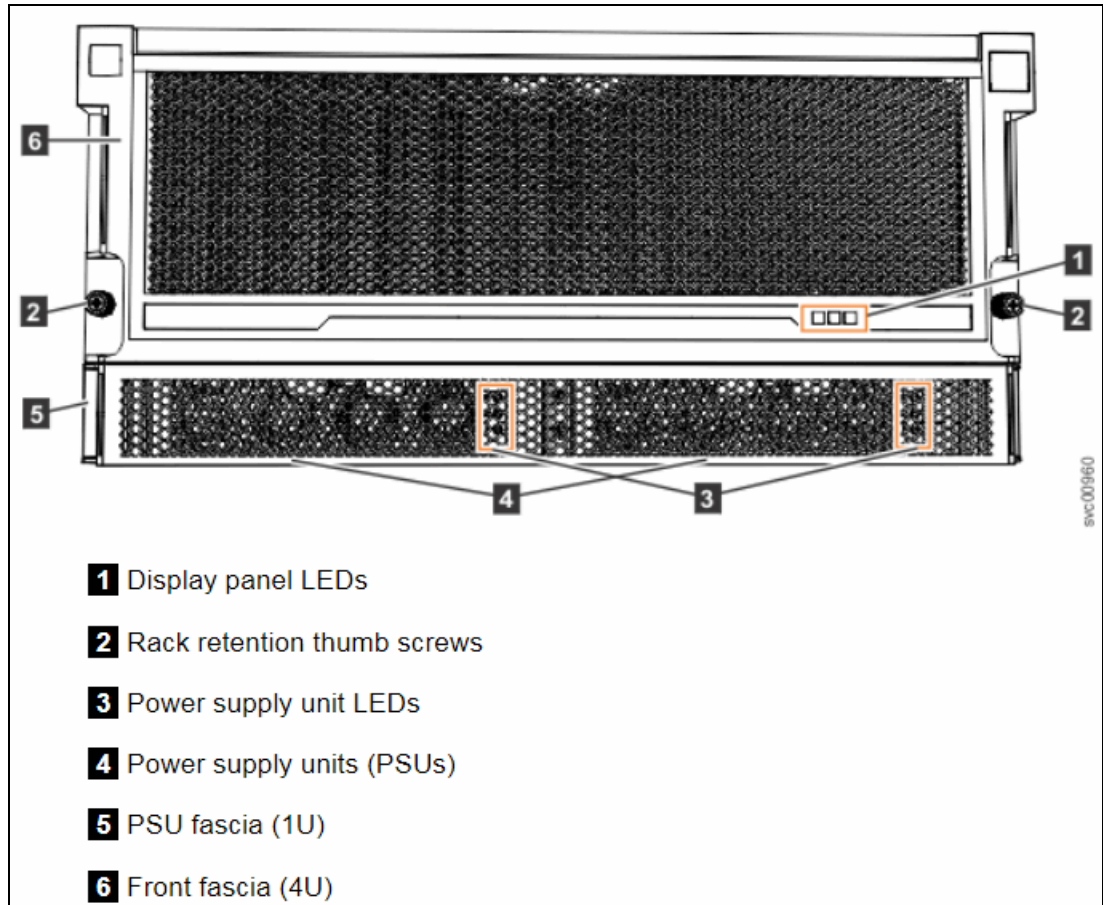

Figure 6-41 Model A9F expansion enclosure front view
The model A9F expansion enclosure has two power supply units that are accessible from the front of the enclosure (4 in Figure 6-41 on page 197). The power supply units are covered by the 1U fascia panel 5. Each power supply unit has a power supply connector and power cord, which are accessible from the back of the expansion enclosure. Power is provided by connecting the power cords to the power source and, if necessary, switching on the power source. The expansion enclosure does not have a power button.
- b. On the front of the enclosure, the indicators on the front display panel and each power supply unit (1 and 3 in Figure 6-41) are also lit when the power is connected. See FlashSystem 9100 9846-A9F expansion enclosure LEDs and indicators for information about the status that is provided by the indicators.